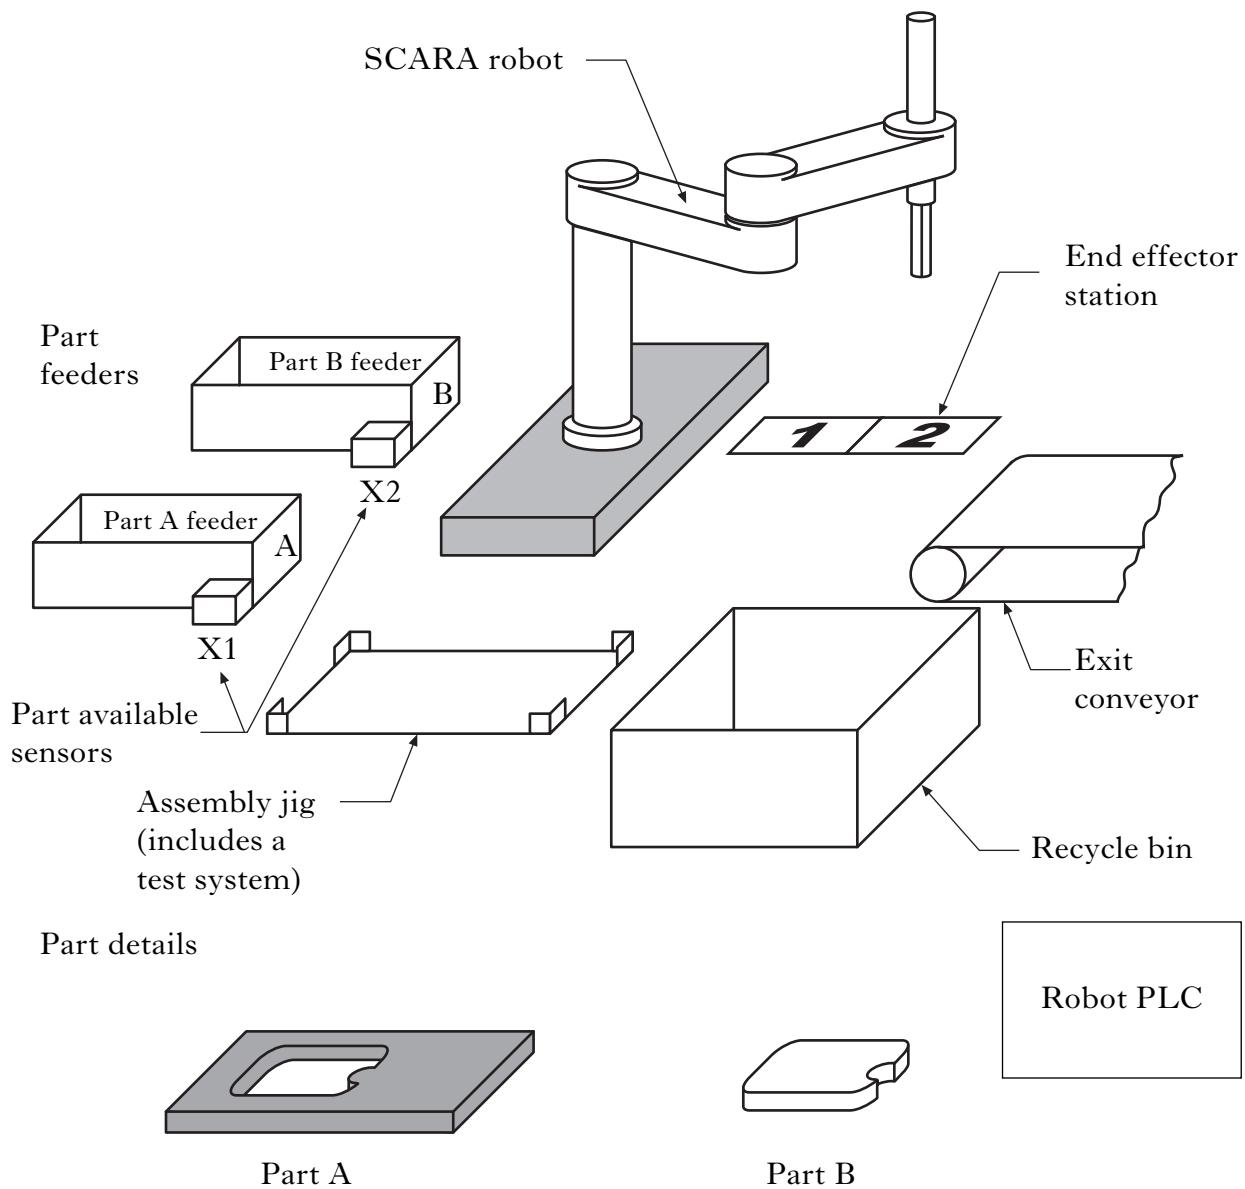

Figure Q12
12. Figure Q12 shows the layout of an automated assembly work cell.